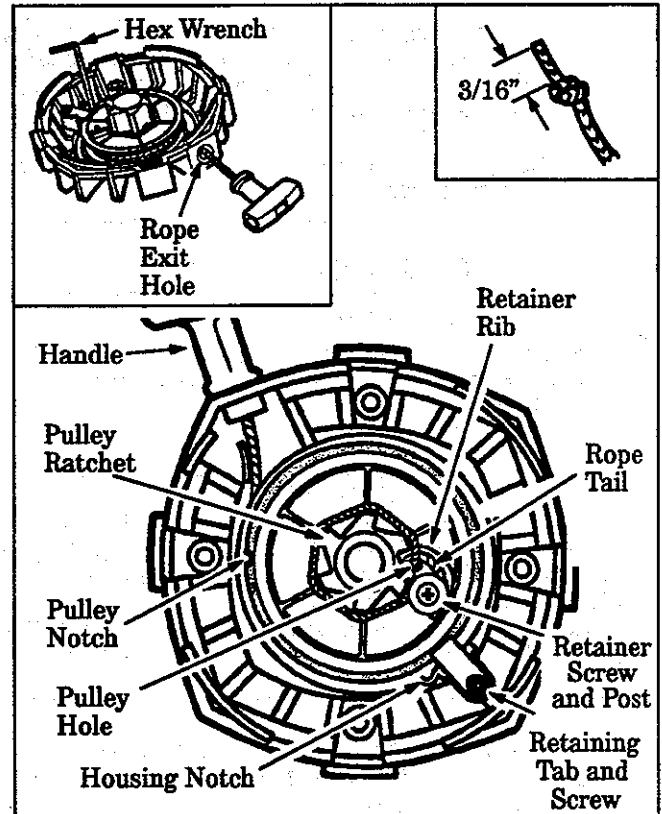

Figure 28
8. Remove Rope Retaining Screw and remove any remaining rope. (Figure 28).
9. Hold Pulley Housing as shown in Figure 28 . Hand turn the Pulley clockwise as far as it will go. Then, turn the Pulley counterclockwise until the Pulley Notch is aligned with the Housing Notch next to the Retaining Tab and Screw. Figure 28 .
11. Insert the small hex wrench into the hole formed by the Notches to hold the Pulley in position. Figure 28 (inset-upper left).
15. Insert one end of the Rope through the Handle and secure with a knot. Leave a 3/16" tail behind the knot. Figure 28 (inset-upper right).
16. Insert the other end of the Rope through the Rope Exit Hole into the inside of the Housing, into the Pulley and up through the Pulley Hole. Figure 28.
17. Wrap the Rope counterclockwise around the Pulley Ratchet and tuck loose end under the Rope at the Pulley Hole. Figure 28. Leave a 1 inch tail laying between the retainer rib and the Rope Retaining Screw/Post. Figure 28.
18. Thread Rope Retainer Screw into the Rope Retaining Post. Tighten screw until the washer is snug against the either the rope or the screw post. Pull firmly on rope to tighten it against the pulley ratchet. Figure 28.